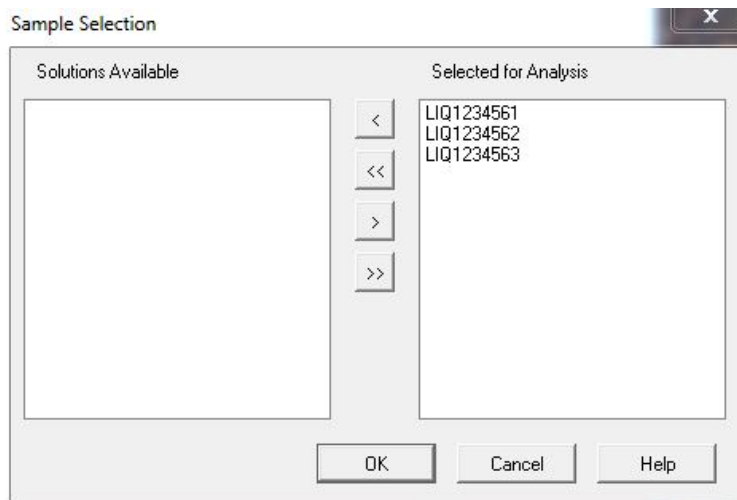

Figure 12 : Samples ready for analyses
- A window will pop-up showing the samples entered in the previous steps (Figure 12). Click **OK**.